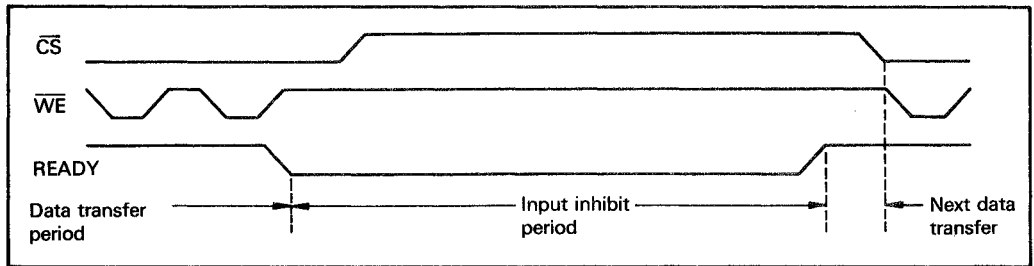

Figure 14. READY Output Timing (When It is Always Available)
- READY is always available (figure 14).